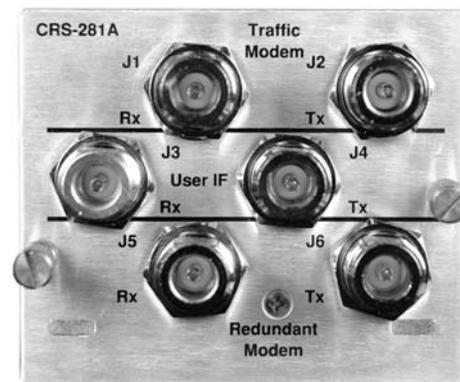

Figure 1-18. CRS-281A IF Switch Module:
- CRS-281A (L-Band IF) with Type 'N' (50Ω) connectors (**Figure 1-18**).